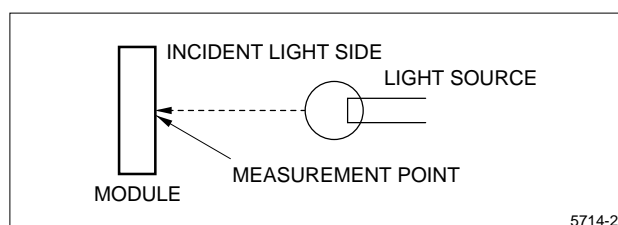

Figure 1. Measurement Point: Panel Surface
3. Measurement point: Panel surface. The light source should be placed at the incident-light-side. See Figure 1.
- ON-Off condition for supply voltage: See Figure 1.